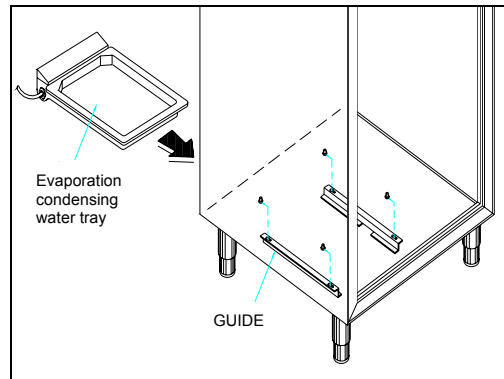

Fig. 3 (see 13.2.4.1)
- Slide into the appropriate runners, on the lower part of the refrigerator, the condensation waste tray and for appliances which have automatic trays, connect the connector. (Fig. 3)